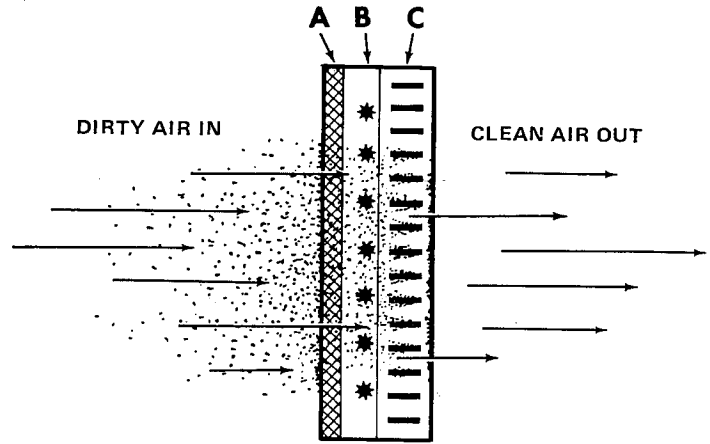

Figure 1
Dirt laden air flowing through the ducts (figure 1) first enters the pre-filters (A) where large particles (hair, lint, etc.) are trapped. Smaller particles (smoke, dust, pollen, etc.) pass through these pre-filters and enter the ionizing section (B). Here each tiny particle receives a positive electrical charge. These charged particles then enter the collecting section (C). This section consists of a series of aluminum plates. Alternate plates are charged positively.